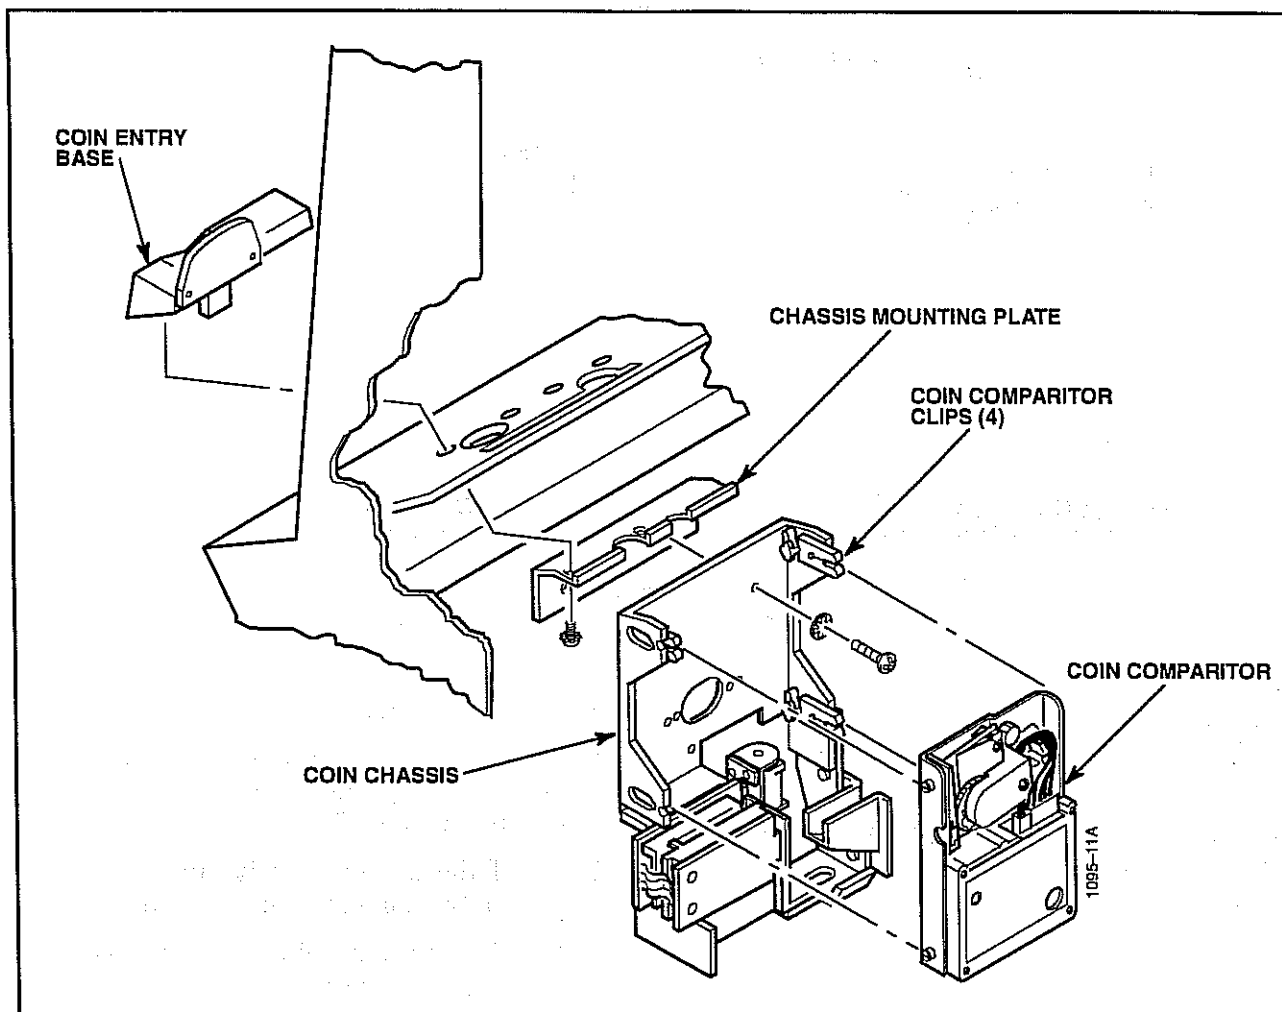

Figure 5-12. Coin Channel Position.
1. If the coin entry base was removed, re-install it according to the information in the preceding coin entry section. Verify that the optic coin encoder is correctly installed on the coin chassis (see Figure 5-12).